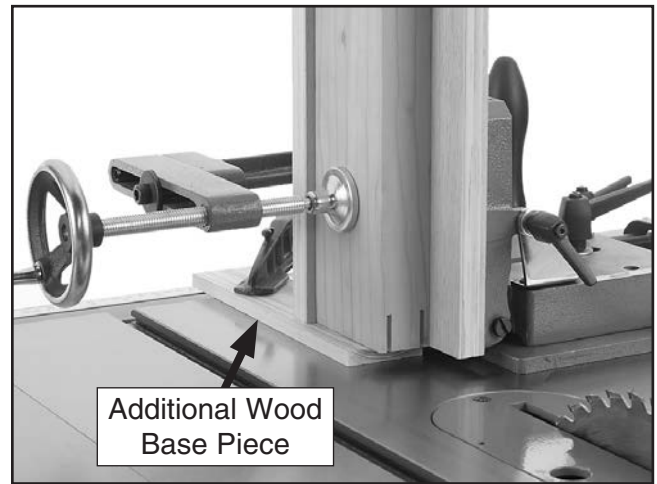

Figure 22. Example of additional wood base piece clamped to saw table.
3. Plane a piece of wood approximately $\frac{3}{8}$ " thick to match base plate of tenoning jig, then clamp it to front of table and even with right side of base plate, as shown in **Figure 22**.